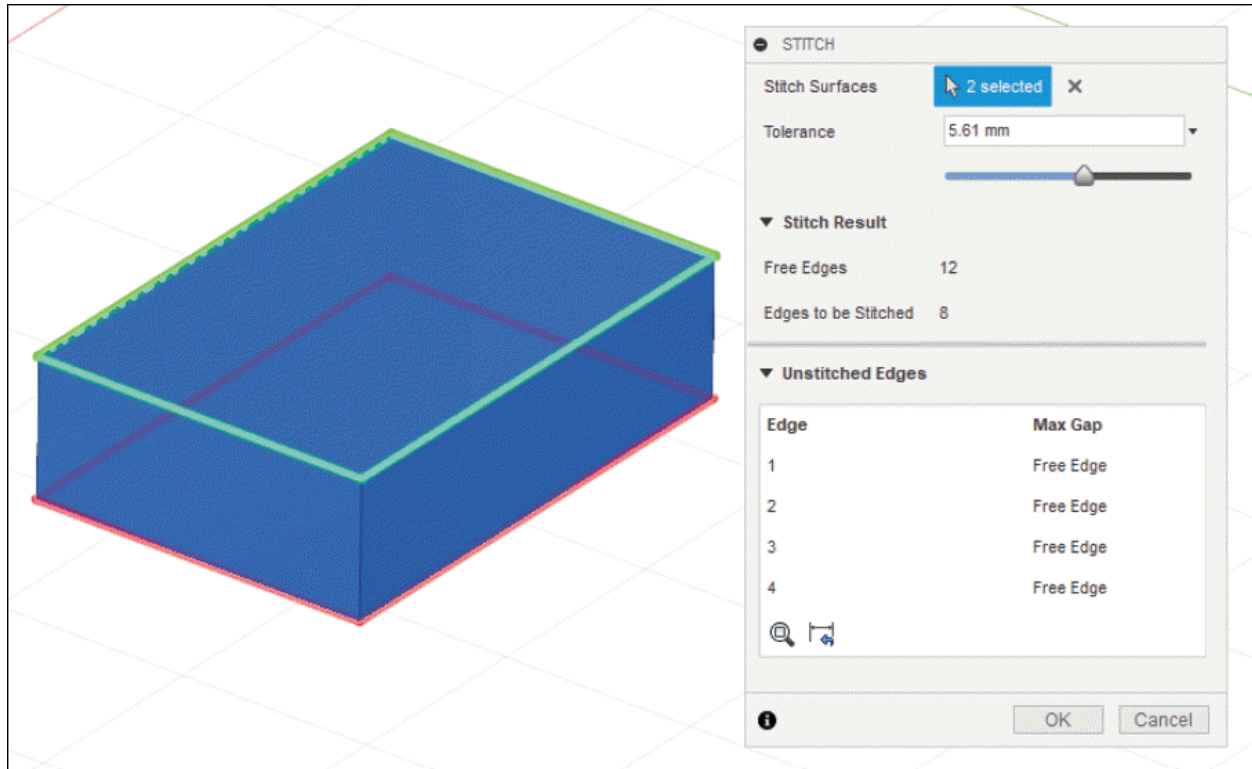

Figure-28. Selection of face to stitch
- The **Select** button of **Stitch Surfaces** section is active by default. You need to select the surfaces of model to be stitched; refer to Figure-28.